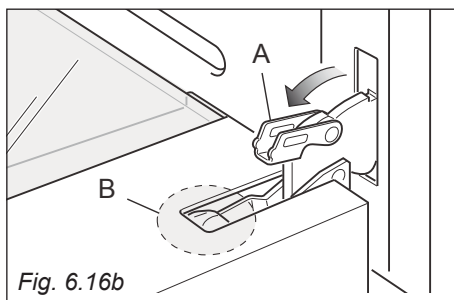

Fig. 6.16b
- Open the lever "A" completely on the left and right hinges (fig. 6.16b).
- Gently close the door (until left and right hinge levers "A" are hooked to part "B" of the door (figs. 6.16b, 6.16c).